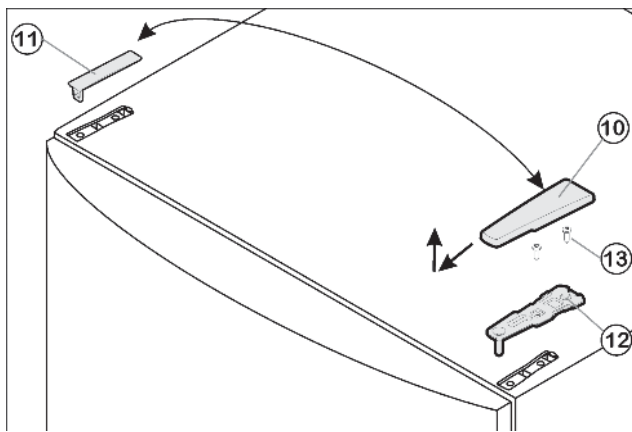

Fig. 9
- ▶ Pull cover *Fig. 9 (10)* forward and upwards to remove.
- ▶ Lift off cover *Fig. 9 (11)*.
- ▶ Unscrew upper bearing bracket *Fig. 9 (12)* (2 x Torx® 25) *Fig. 9 (13)* and pull it upwards to remove.
- ▶ Insert the upper bearing bracket Fig. 9 (12) on the new hinge side into the door.
- ▶ Tighten the upper bearing bracket (**to 4 Nm**)(2 x Torx® 25) Fig. 9 (13). Make preliminary holes (optional) or use a cordless screwdriver.
- ▶ Snap both cover Fig. 9 (11) and cover Fig. 9 (10) into place on the opposite side.